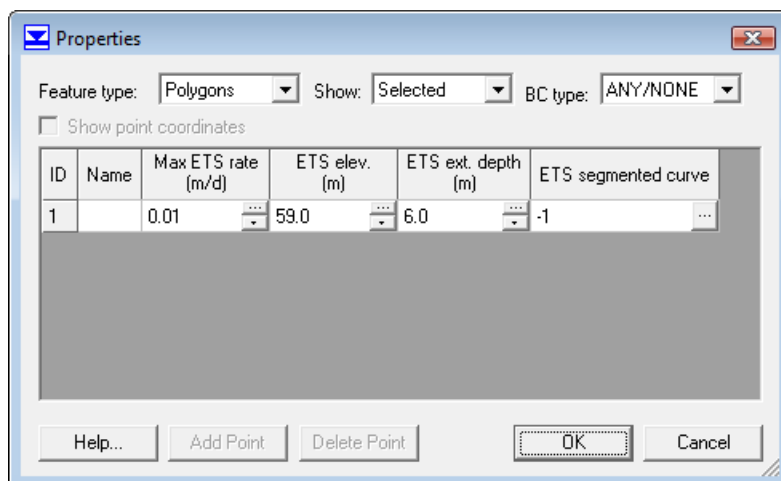

Figure 5. Coverage Properties dialog showing the polygon.
3. In the *Properties* dialog, set the values to be as shown in Figure 5.